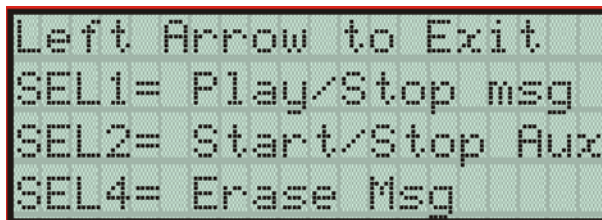

Figure 4-4 Recording Options Window of FACP
8. Press switch 2 and start playing the audio file from your PC at the same time. See Figure 4-4.